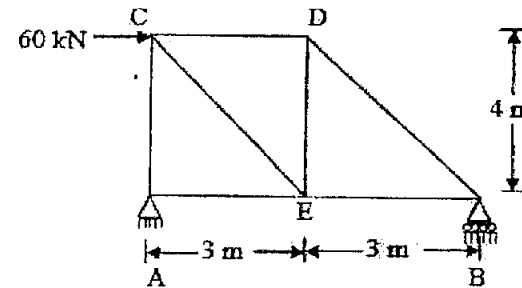

Fig. 2
4. Compute the vertical deflection of joint E by unit load method as shown in Fig.2. (10)